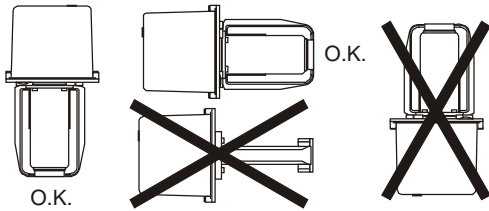

Figure 1: Proper Yoke Orientation
- mount the actuator and valve assembly in an upright position, in a conveniently accessible location. When mounting the assembly horizontally, orient the yoke so that the yoke supports are positioned vertically, one above the other (as illustrated in Figure 1).